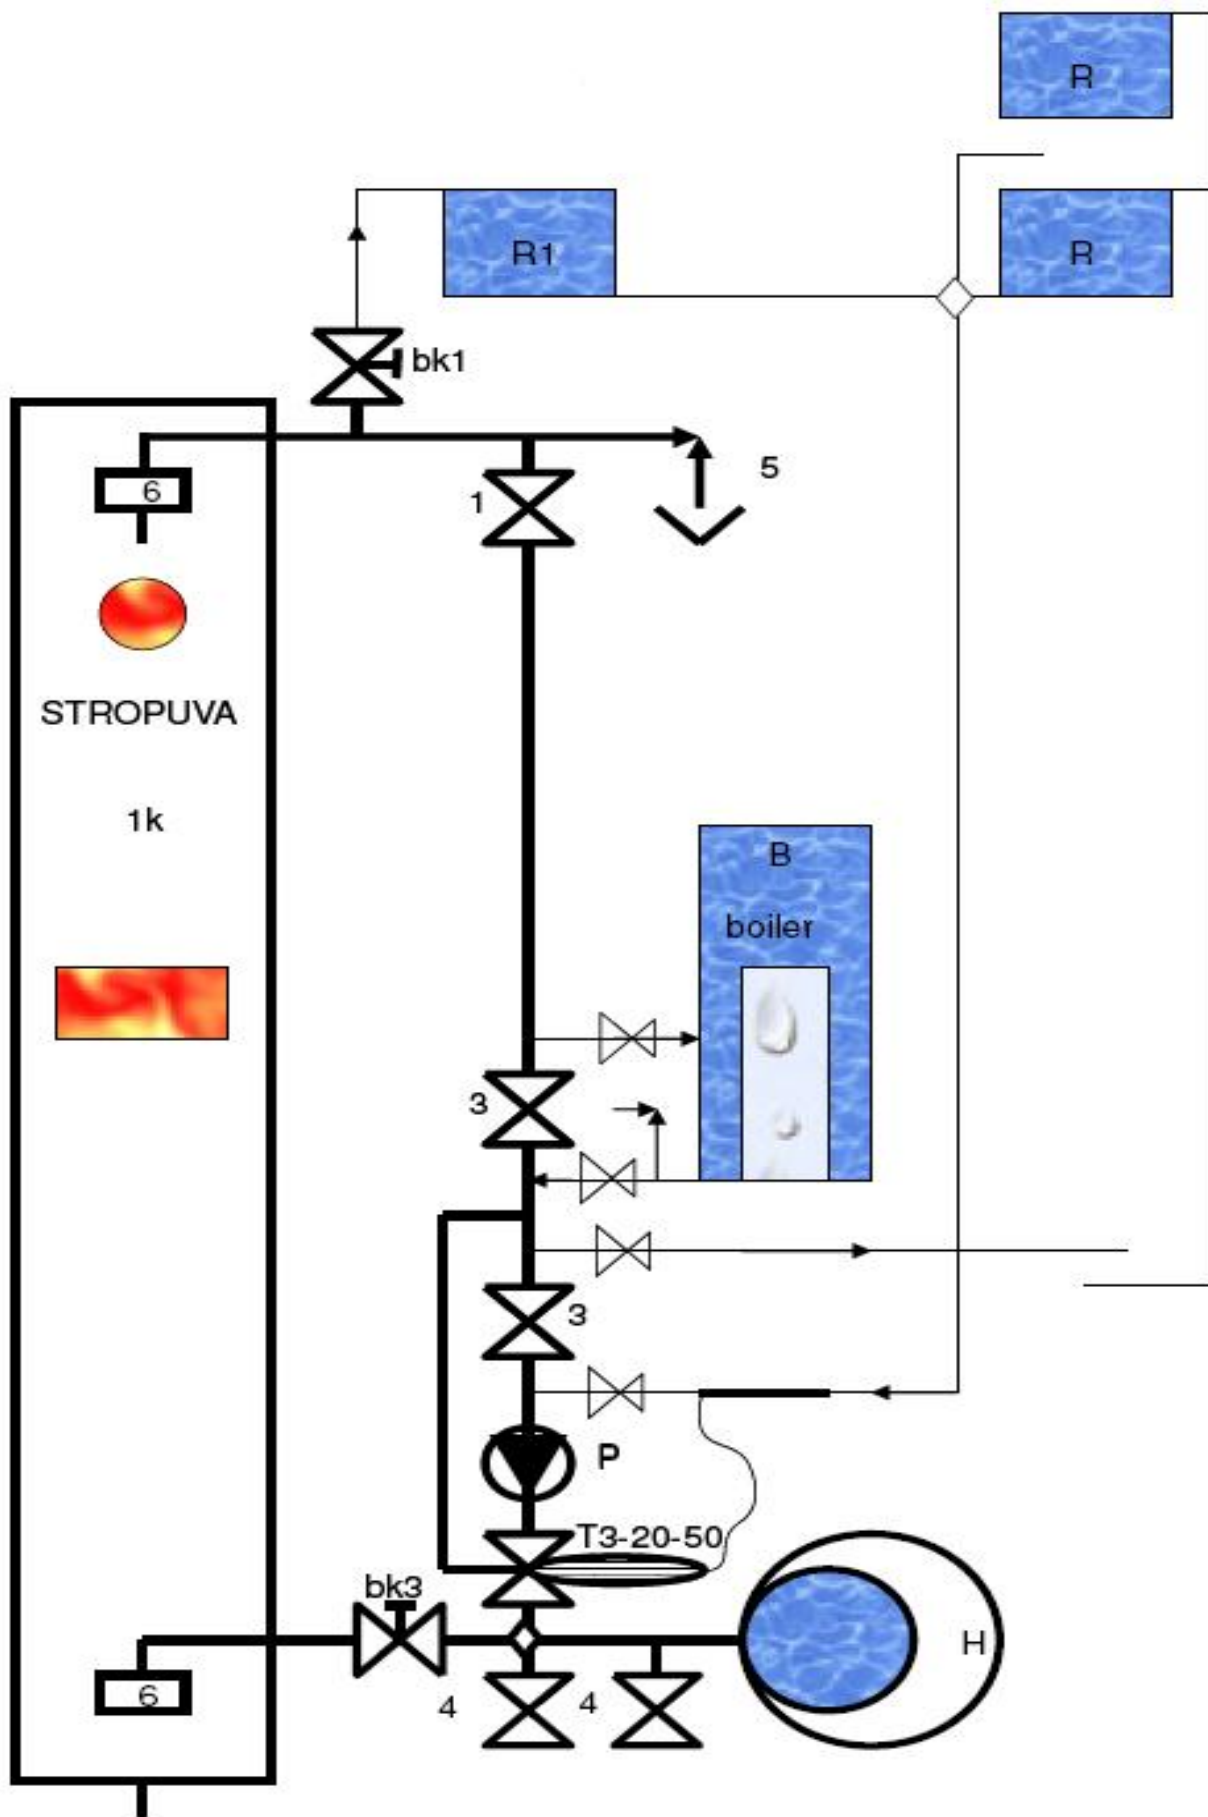

Fig. 4.4. Heating system scheme without additional boiler and floor heating.
The pump (P) pumps the water out of the heating elements and pushes it through the boiler into the heating elements (see figure 4.4.). Through balance faucet (bk 1) the heated water flows into the nearest radiator, which can operate in a self-flowing manner to protect the boiler from overheating (radiator without a thermo valve) in case the power went off.